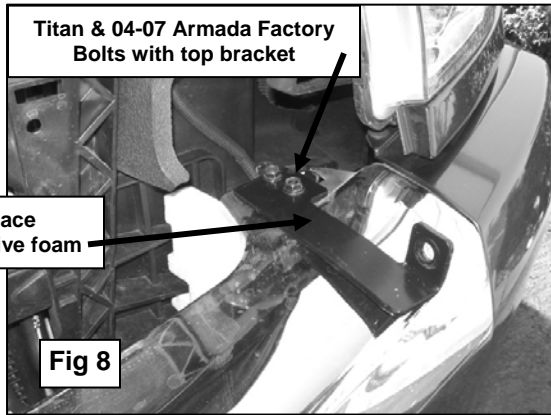

Fig 8
**All Titan & 07 back Armada:** Remove the two factory bolts located on the top inner side of the bumper. Attach Top Brackets using the existing bolts, **(Figure 8)**. Do not tighten at this time.